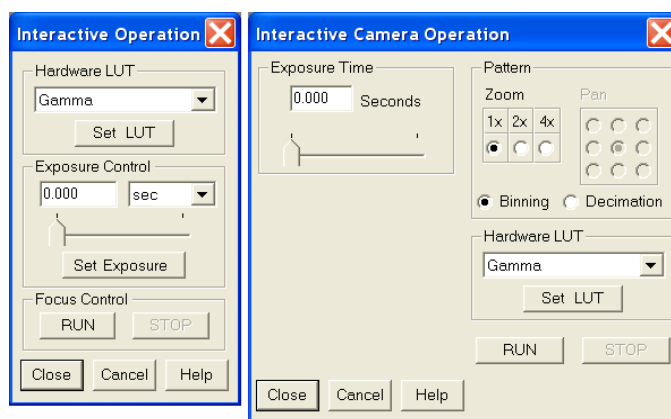

Figure 28. PentaMAX Interactive Operation dialog
2. Select **Video Focus** from the **Acquisition** menu. The **Interactive Operation** dialog that will be displayed depends on the PentaMAX version. Version 5 and higher will display the righthand dialog shown in Figure 28. Earlier versions display the lefthand dialog.